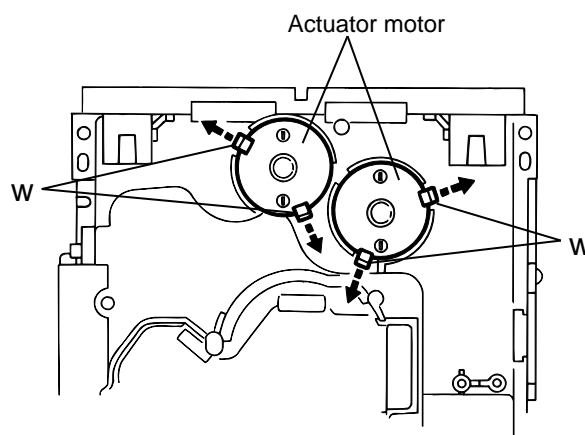

Fig.21
5. After turning over the chassis assembly, remove the actuator motor while spreading the four pawls "w" fixing the right and left actuator motors in the arrow direction (See Fig. 21).